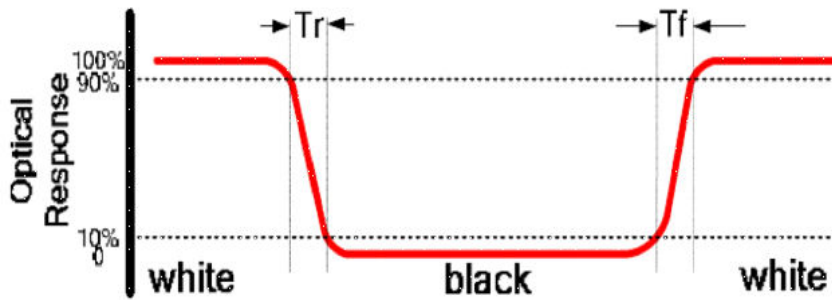

Fig.2: Measuring method for Contrast Ration surface luminance, Luminance uniformity, CIE (x,y) chromaticity
Note1: Contrast Ratio (CR) is defined mathematically by the following formula. For more information see FIG 2:
Note 2: Surface luminance is the LCD surface from the surface with all pixels displaying white. For more information see FIG 2.
luminance of 9 points luminance by minimum luminance of 9 points luminance. For more information see FIG 2.
Note 5: CIE (x, y) chromaticity, The x,y value is determined by screen active area position 5. For more information see FIG 2.